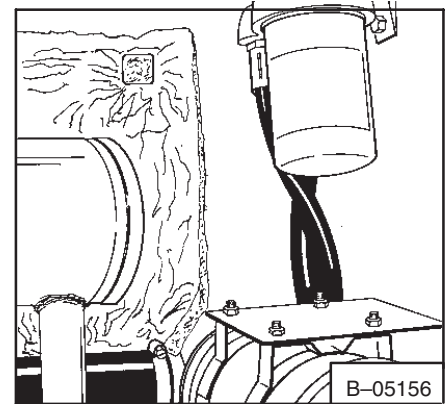

Fig. 1-29 Filter Location (540)
3. Remove the filter element (Fig. 1-29 or 1-30) with a filter wrench.